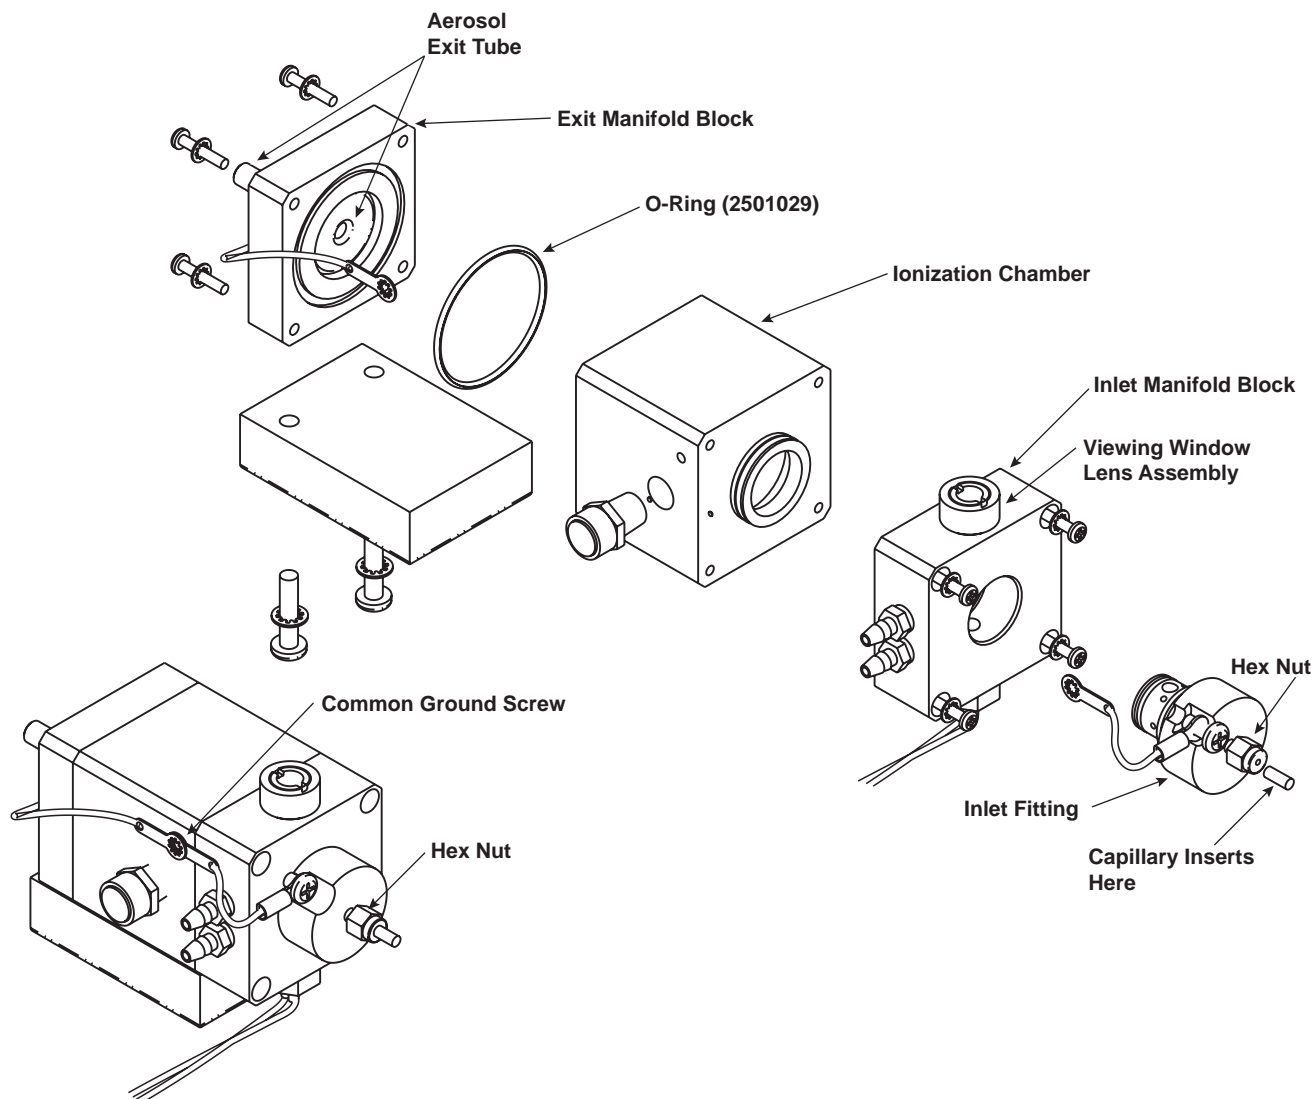

Figure 5-3
The Electrospray chamber should not need cleaning as often as the orifice plate under most operating conditions. However, the Electrospray chamber should be checked periodically for corrosion or aerosol deposits depending on the nature of the chemicals used in the Electrospray. It is easiest to clean the Electrospray chamber while cleaning the orifice plate. Refer to Figure 5-3 and use the following procedure to clean the Electrospray chamber:
4. Detach the Electro spray chamber from the cabinet by removing the two screws on the back panel of the instrument behind the Electro spray chamber (not shown in Figure 5-3).